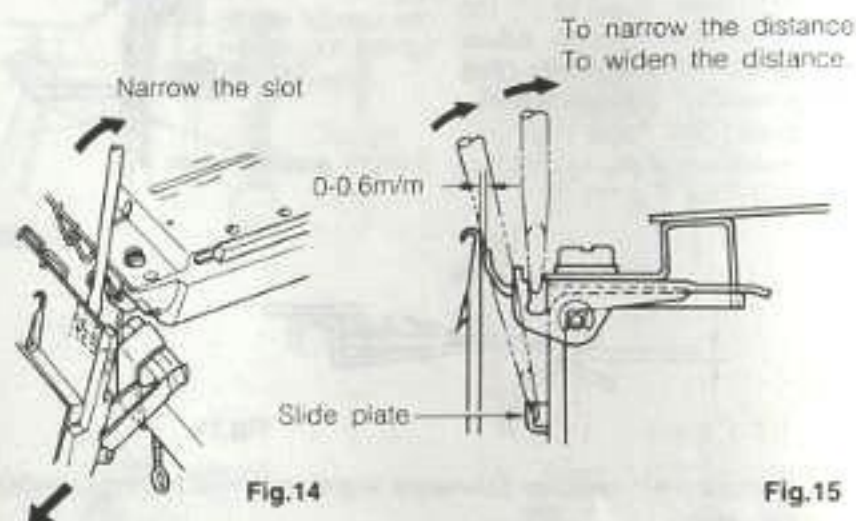

Fig.14
- (1) Loosen a little the table clamps and the thumb screws of the setting plates R and L.
- (2) Pull the ribber toward you and fasten the thumb screws of the setting plates R and L temporary.
- (3) Then adjust the clearance by means of prying upward with a slotted screwdriver while being the concave part of the slide plate as the fulcrum.
- (4) After the adjustment, loosen the thumb screws of setting plates, push the ribber to the Knitter to attach correctly and fasten the thumb screws of setting plates and the table clamps.
- (5) Then check the distance. (See Fig.14 and Fig.15.)